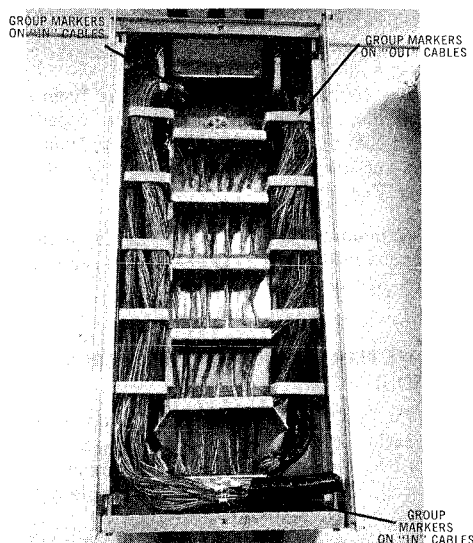

Fig. 3 — Installation of Unit Group Markers
5.04 Before removing the unit binder, wrap each binder group of the IN and OUT cable (or cables) with the cable unit marker using the number that corresponds with the group. (e.g., Blue, White — No. 1) unless a change is required to correspond to the Continuous PIC Sheath Count. Place the markers both near the sheath opening and at the clear and capped end of the IN cable. (See Fig. 3).
7.06 Feed each 25 pair binder group through the back row of holes in the wiring bracket in accordance with the colour code and pair count indicated on the front of the distributing bracket. Figures 3, 4 and 5 give a top view of the distributing brackets.